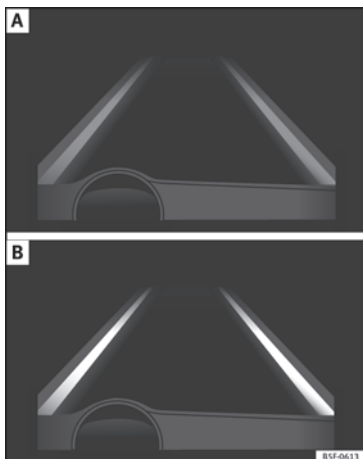

Fig. 212 On the instrument panel display: Indication on the Lane Assist system display (example 1).
- The system is active, but not available, either because the minimum speed has not been reached or because the lane lines are not recognised »» Fig. 212 A.
- The system is active and available, both lane lines are recognised. The steering angle is not being corrected at this moment »» Fig. 212 B.